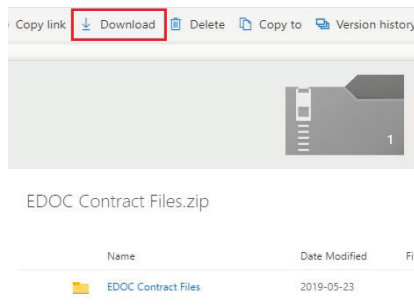

Figure 2-2: Download the zip file
2. Click on **Download** (Figure 2-2).